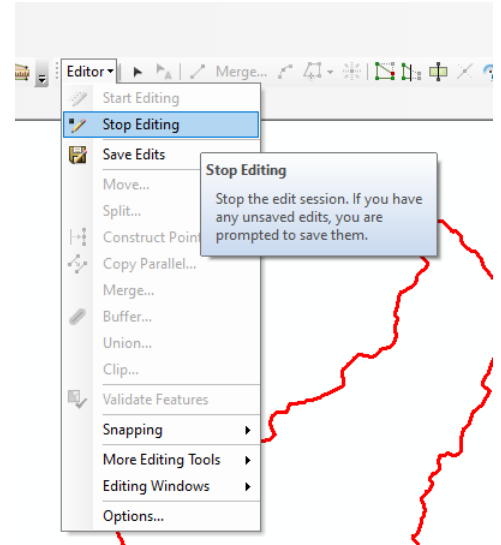

Figure 31. Stop Editing
- Once your polygon is complete, select Stop Editing from the Editor drop down menu (Figure 31).